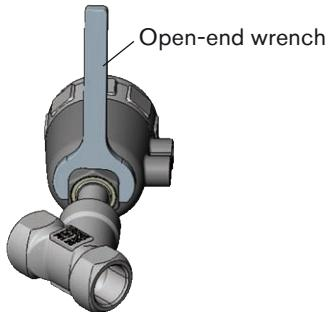

Fig. 19: Place open-end wrench on the hexagon
- Place a suitable open-end wrench on the hexagon of the actuator (see Fig. 19.).